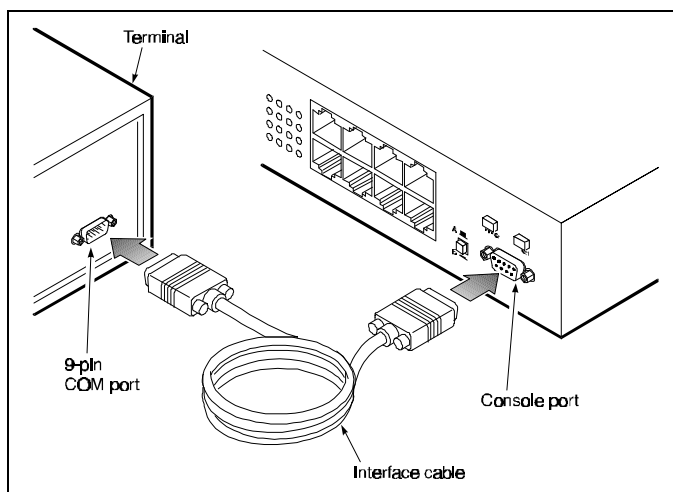

Figure 2-2 Connecting a Terminal to the Console Port
1. Connect a terminal to the console port using a null modem interface cable (Figure 2-2).